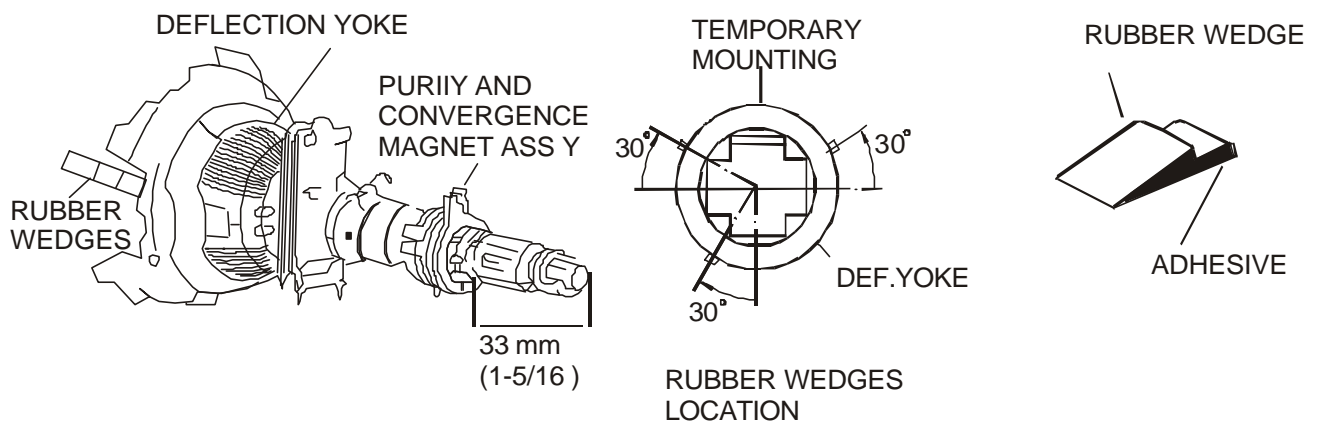

Figure 8
Note: Before attempting any color purity adjustments, the receiver should be turned on for at least 30 minutes. (see Figure 8). A few rubber wedges should be available for use whenever necessary during the process of color purity adjustment.
- b. Put a wedge as shown in Fig.8 temporarily. (Do not remove the cover paper on the adhesive part of the wedge).
- h. Tighten the screw firmly to hold the yoke tightly in place. Stick 3 adhesive tapes on wedges as shown in Fig. 8.